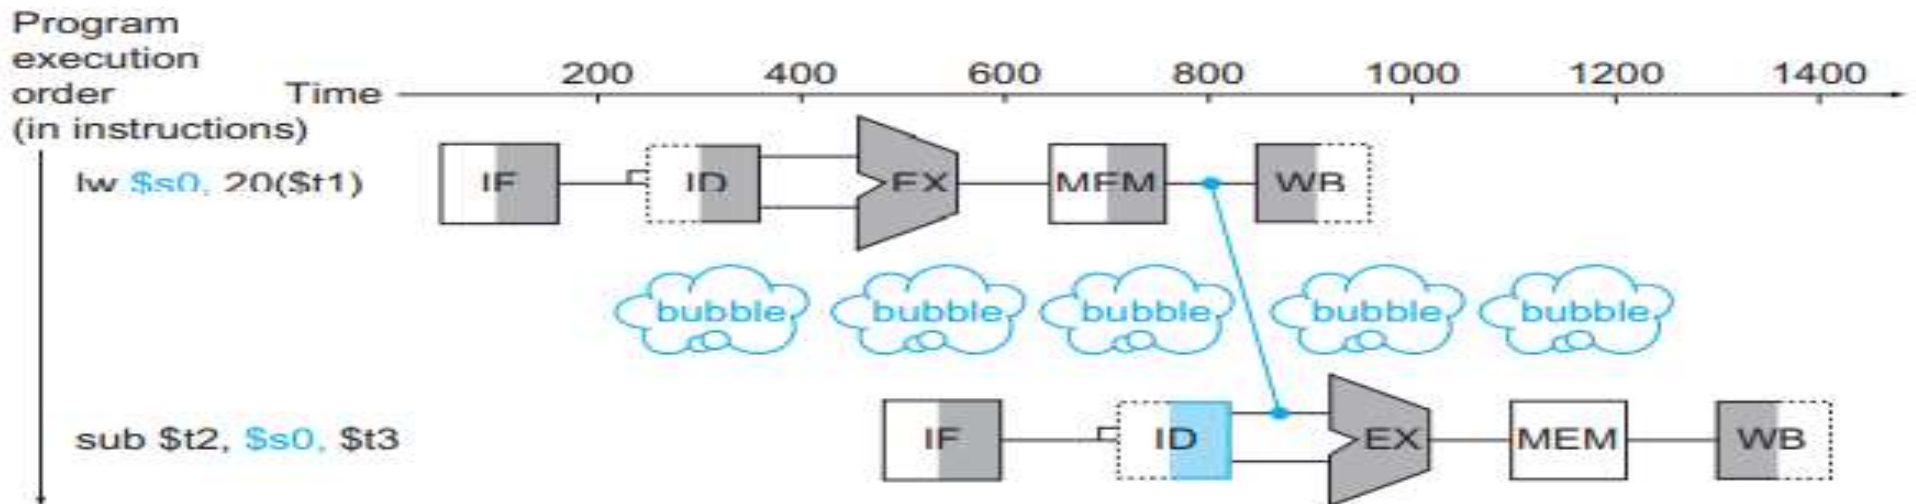

FIGURE 30 We need a stall even with forwarding when an R-format instruction following a load tries to use the data.
- For example, suppose the first instruction was a **load of \$s0 instead of an add**. As we can imagine from looking at Figure 30, the desired data would be available **only after the fourth stage of the first instruction in the dependence**, which is too late for the input of the third stage of sub.